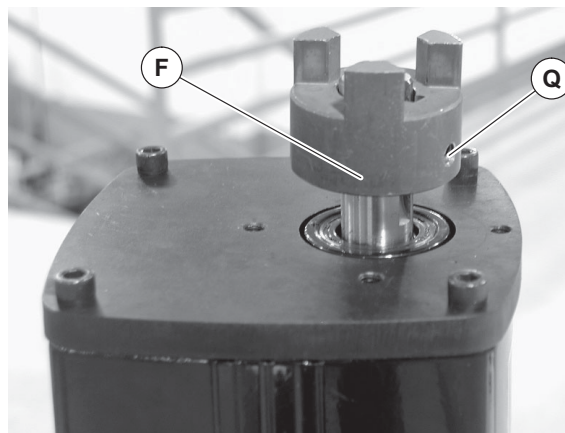

Figure 12
9. Install 3 jaw coupling (Figure 12, item F) and tighten set screw (Q) to 45 in-lbs (5 N-m).